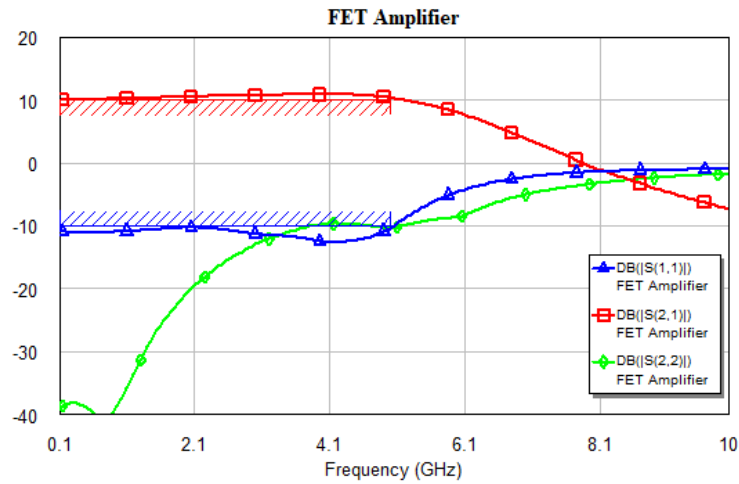

Fig. 7 S-parameters of the amplifier with FET.
- The resulting amplifier works well up to 5 GHz, as shown in Fig. 7.